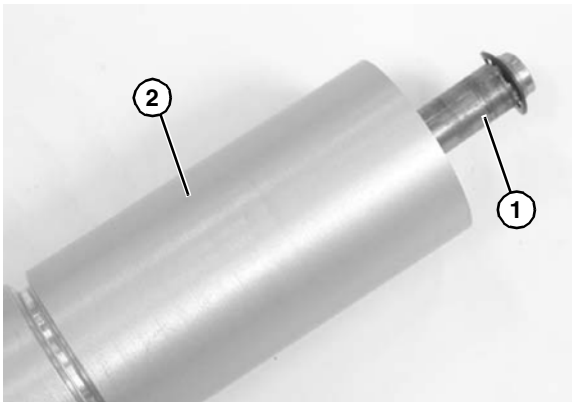

Figure 45
6. Slide the shaft assembly (**Figure 45, item 1**) out of the pulley (**Figure 45, item 2**).